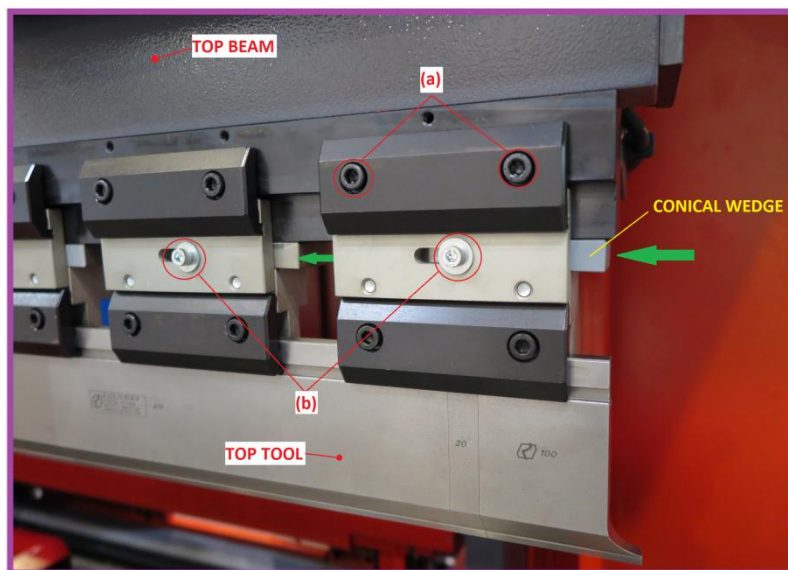

Figure-37: Top tool wedge adjustment parts.
2. Slightly loosen the cover plate(s) fixing bolts (See Figure-37 (a) and (b)) with approximate amount of  $y = 0.5$  mm.
3. Push the conical wedges in the direction of the green arrow to the extent of tool deformation. (See Figure-37).